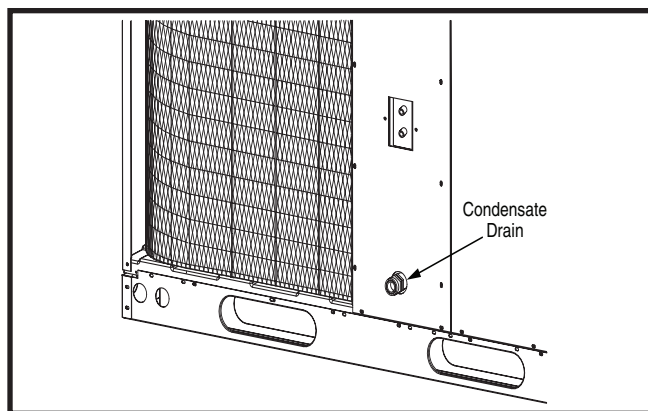

Figure 4. Condensate Drain Location
- The appropriate accessory roof curb (Figure 4) must be installed prior to unit installation. The roof curb must be square and level to ensure proper condensate drainage. **Please follow all instructions provided with the kit.**